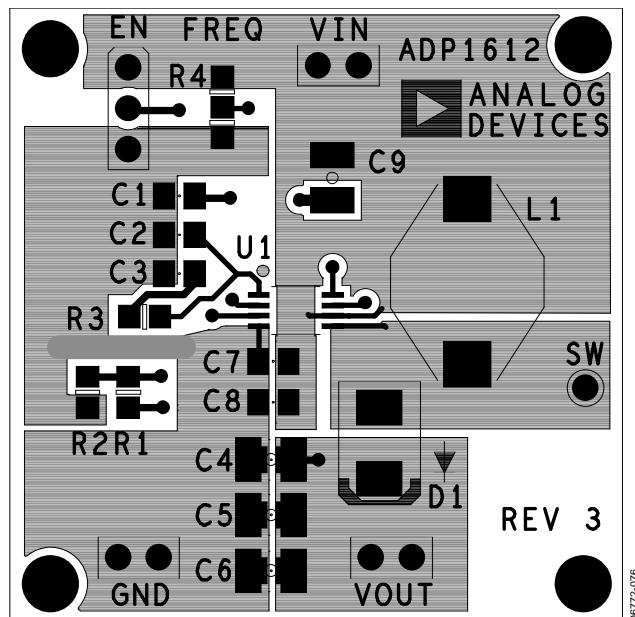

Figure 76. Example Layout for ADP1612/ADP1613 Boost Application
- Keep the low ESR input capacitor,  $C_{IN}$  (labeled as  $C_7$  in Figure 76), close to VIN and GND. This minimizes noise injected into the part from board parasitic inductance.
- Keep the high current path from  $C_{IN}$  (labeled as  $C_7$  in Figure 76) through the L1 inductor to SW and GND as short as possible.
- Keep the high current path from VIN through L1, the rectifier (D1) and the output capacitor,  $C_{OUT}$  (labeled as  $C_4$  in Figure 76) as short as possible.
- Connect the softstart capacitor,  $C_{SS}$  (labeled as  $C_1$  in Figure 76) as close to the device as possible. Connect the ground of the softstart capacitor to an AGND plane that makes a Kelvin connection to the GND pin.